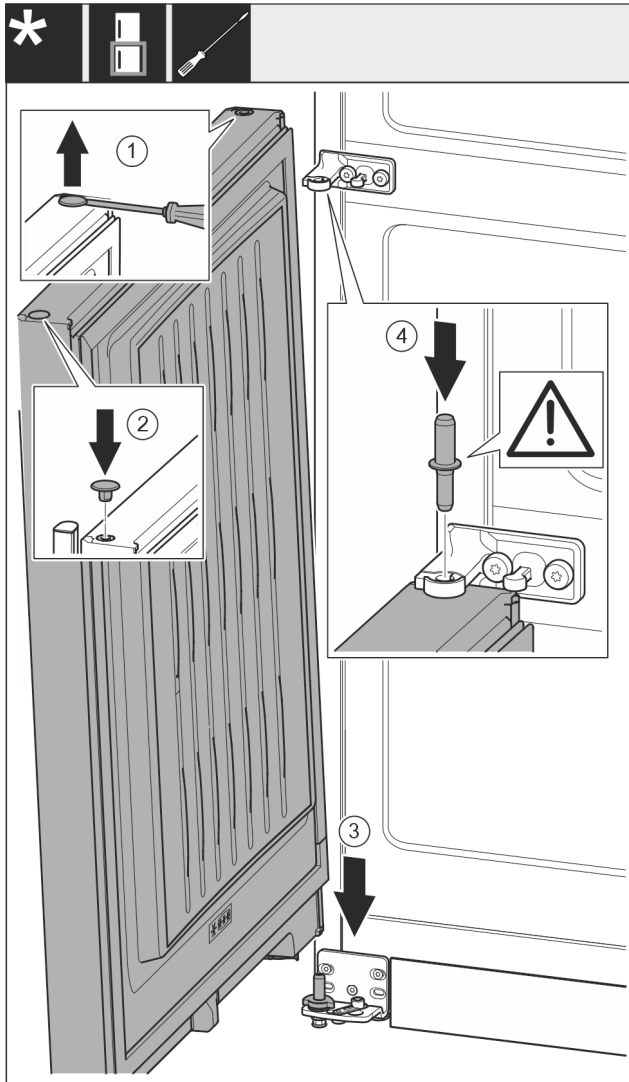

Fig. 20
- ▶ Use a slotted screwdriver to lift the plug Fig. 20 (1) carefully and pull it out.
- ▶ Re-insert the plug Fig. 20 (2) on the other door side.
- ▶ Lower the door Fig. 20 (3) onto the bottom bearing bolt.
- ▶ Insert the centre bearing bolt Fig. 20 (4) through the centre bearing block in the lower door. Ensure that the latching cam is pointing towards the rear.